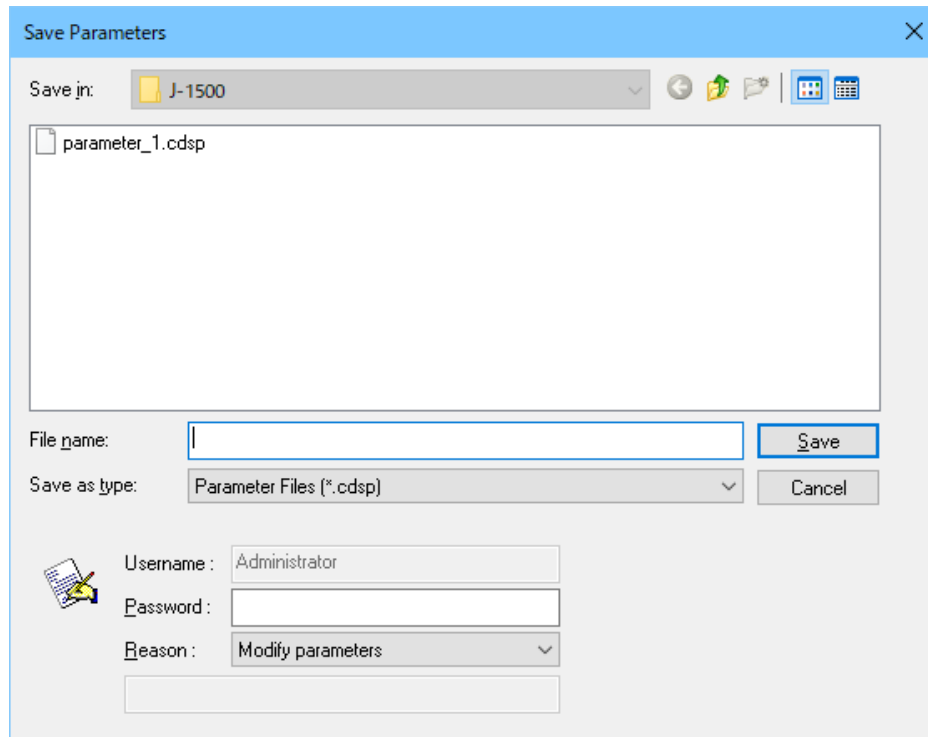

Figure 4.9 [Save Parameters] dialog box
- (6) In the CFR version, always save changes to the parameters. Click the <Save...> button to display the dialog box in Figure 4.9.